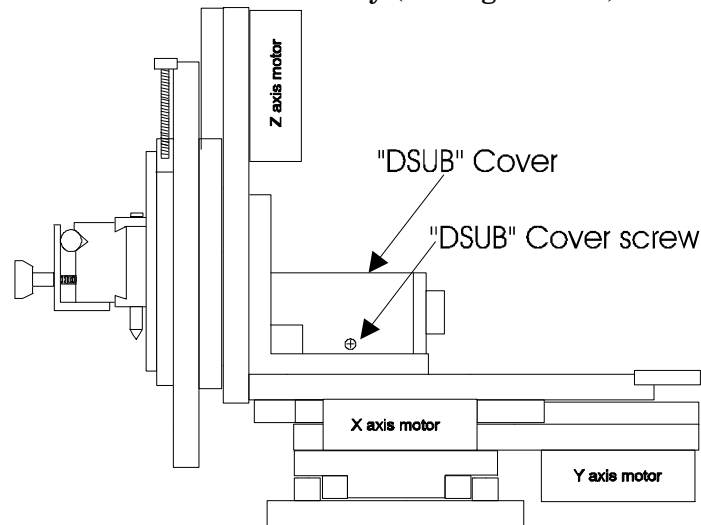

Figure 7-16. DB-25 connector (D-sub) cover removal.
2. Identify the DSUB connector cover. It is located on top of the Y-axis slide assembly, immediately behind the Z-axis slide assembly (see Figure 7-16).